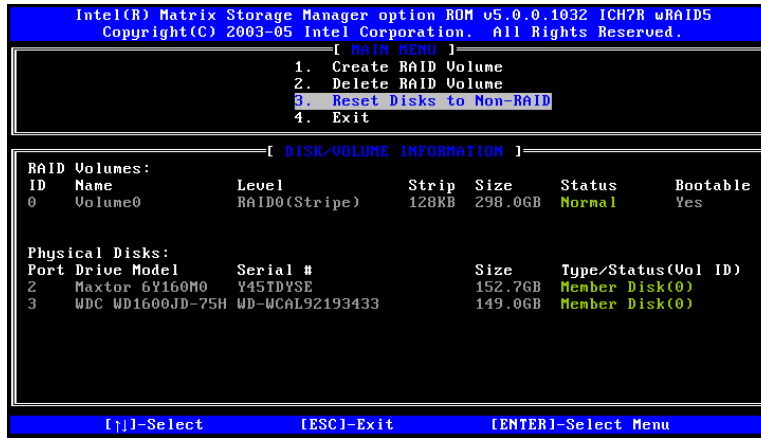

Figure D-12: Reset Disk to Non-RAID Menu
**Step 1:** Select “Reset Disk to Non-RAID.” Use the arrow keys to highlight **Reset Disk to Non-RAID** and press **ENTER**. See Figure D-12.